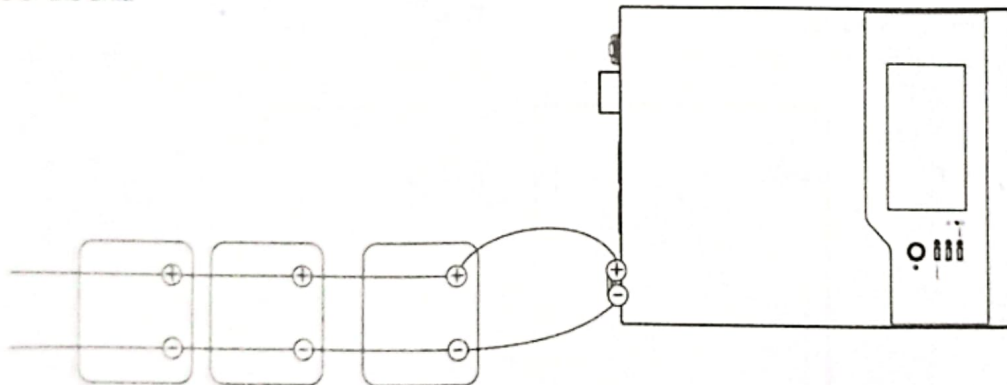

Fig 4
3) **Multiple batteries in parallel connection(Refer to Fig. 4):** Each battery's voltage must be equal to the Nominal DC Voltage of the unit.